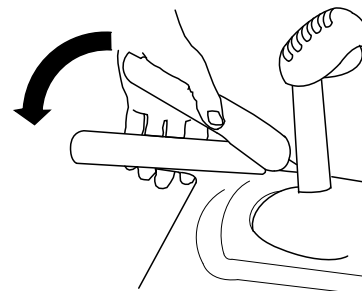

Figure 9
3. Squeeze the left (traction) lever to the handgrip (Figure 9).
6. Squeeze the left (traction) lever to the handgrip (Figure 9).